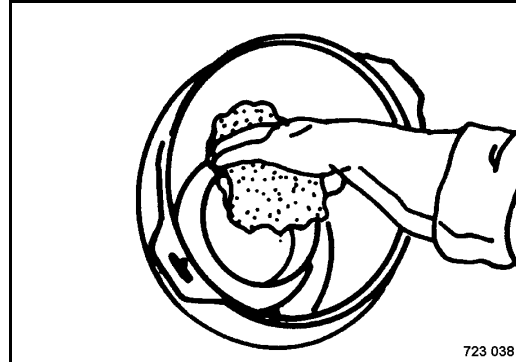

Fig. 143
- Clean the sealing face on the outlet tube (Fig. 143).